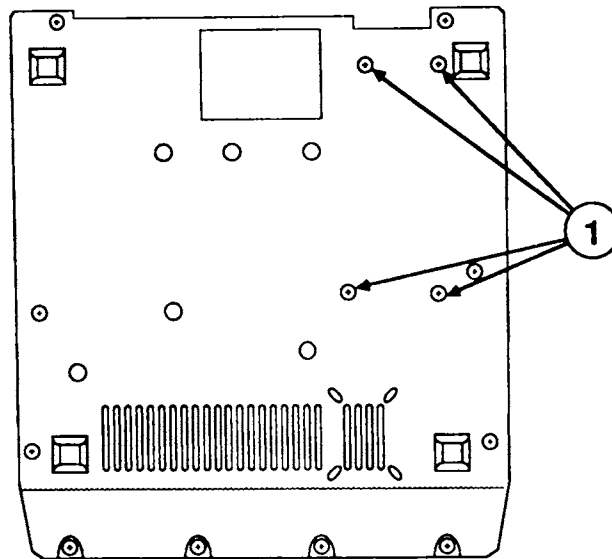

FIGURE 6
IPL.7	Parallel Printer Board (Figure 6)
4. Using the #2 screwdriver, remove the four Phillips screws (Figure 6, #1) that secure the power supply to the base pan. Remove the base pan from the power supply.